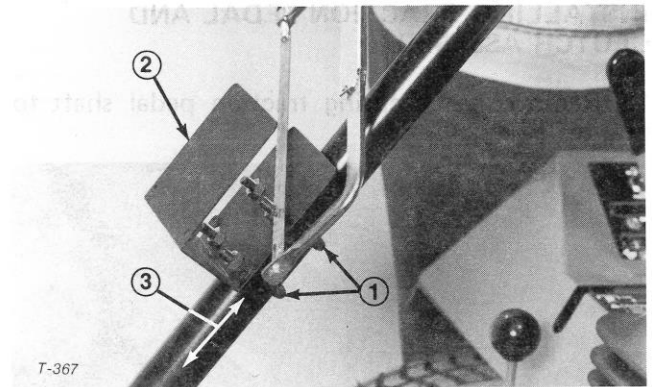

Figure 11
1. Install muffler clamp and bracket onto steering column, mount box over clamp and secure with clamp nuts (Fig. 11).
2. Repeat step 1 with second clamp. Position assembly so there is approximately 6-3/4 in. (17 cm) between steering column support and bottom clamp (Fig. 11).
3. Tighten clamp nuts securely and cut excess portions of clamps off with a hacksaw (Fig. 11).